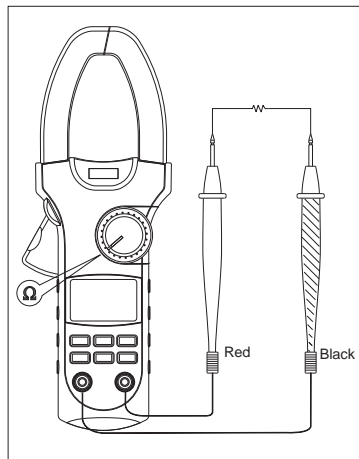

Figure 4
B. Measuring Resistance (see figure 4)